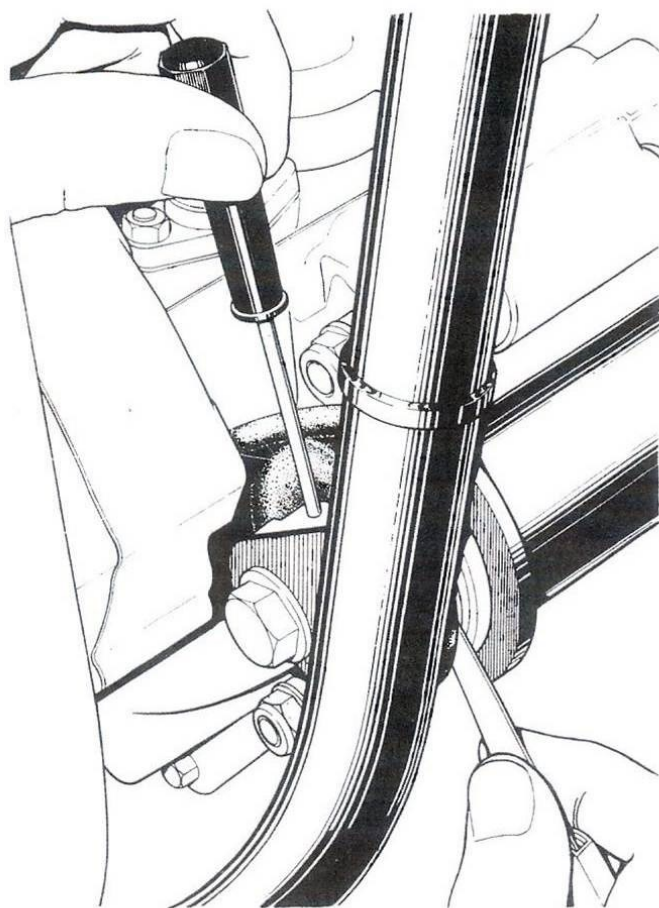

Fig. F20 Checking front mounting clearance
- 2 Push or lever the engine to the right until all slack in the Isolastic mounting has been taken up. Holding the engine unit in this position, use feeler gauges to measure the clearance between the plastic washer and bright plated adjuster collar. (See Fig. F20).